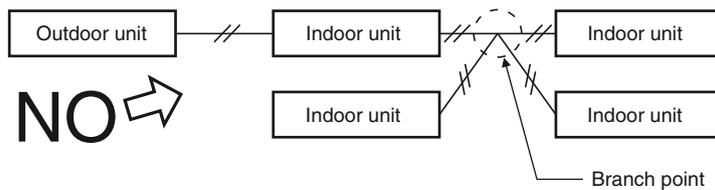

Fig. 4-4
- Do not install inter-unit control wiring such as star branch wiring. Star branch wiring causes mis-address setting. (Fig. 4-4)